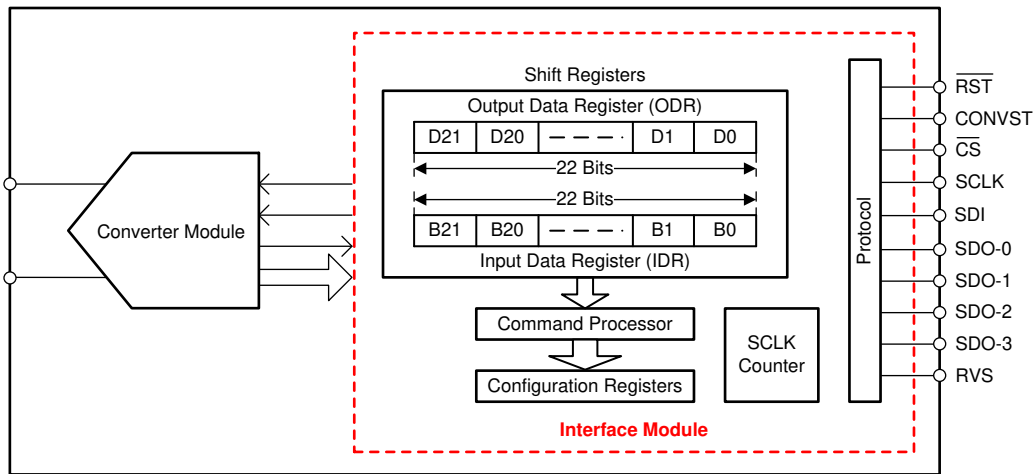
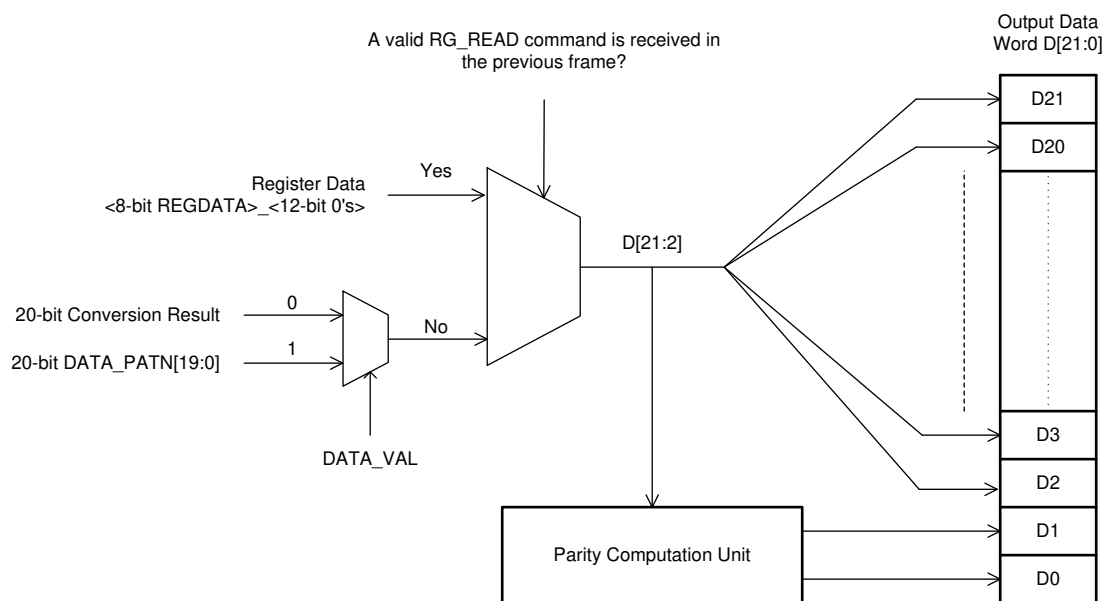
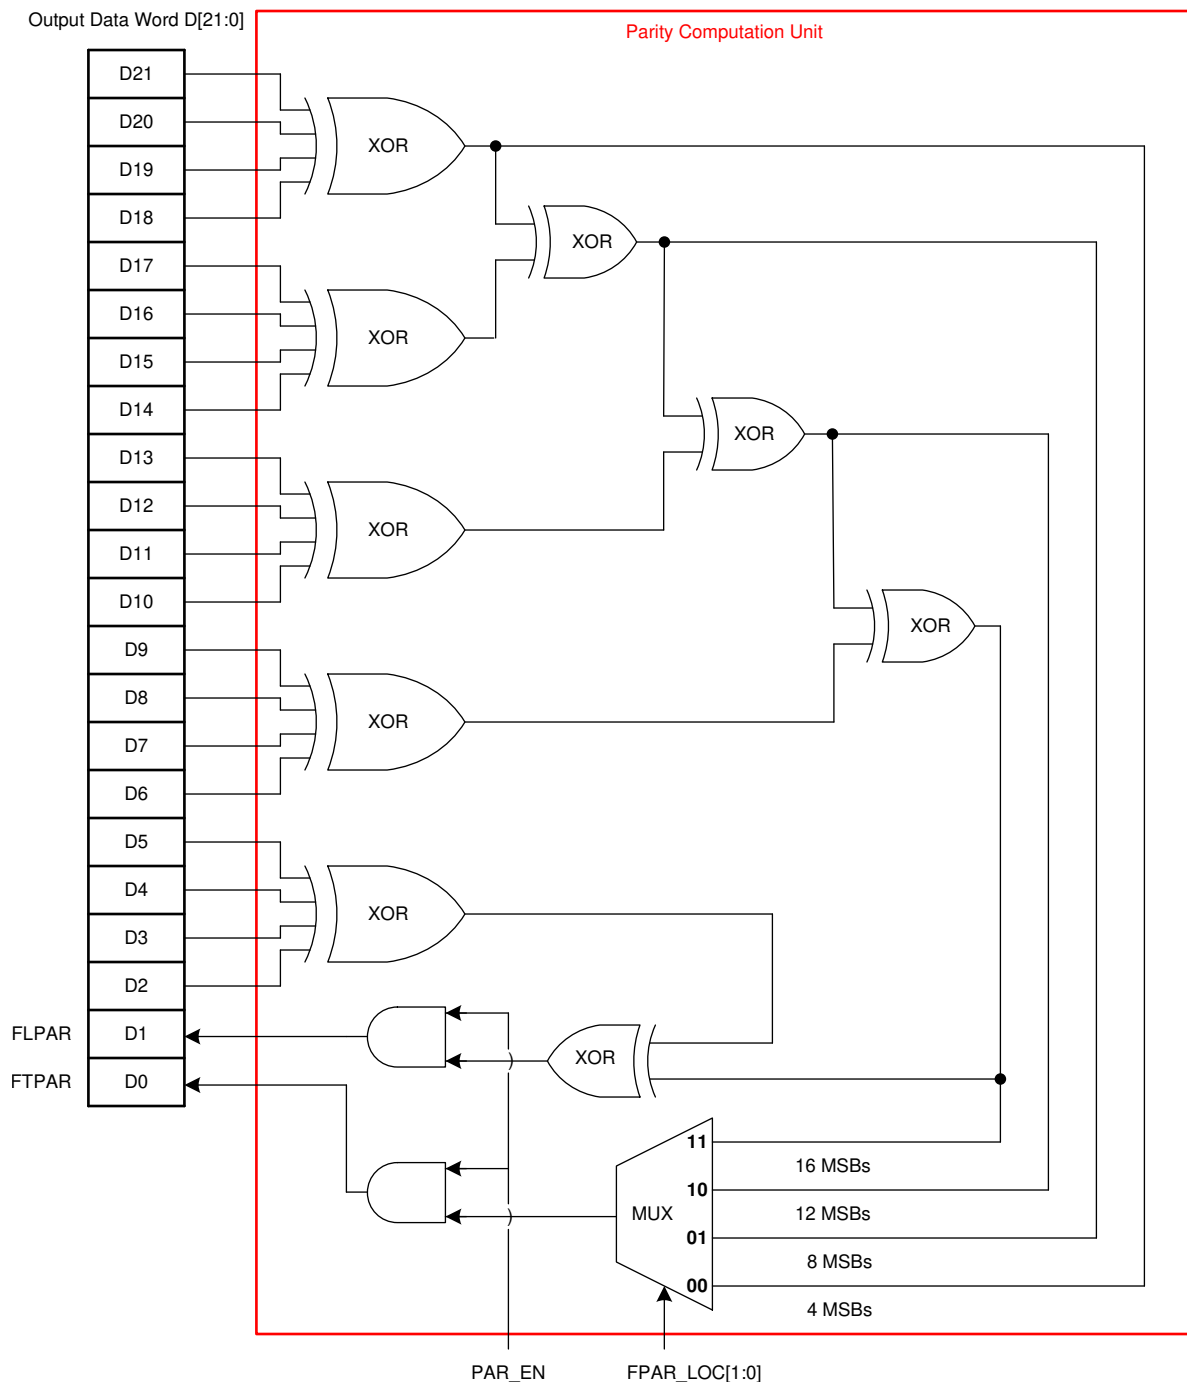
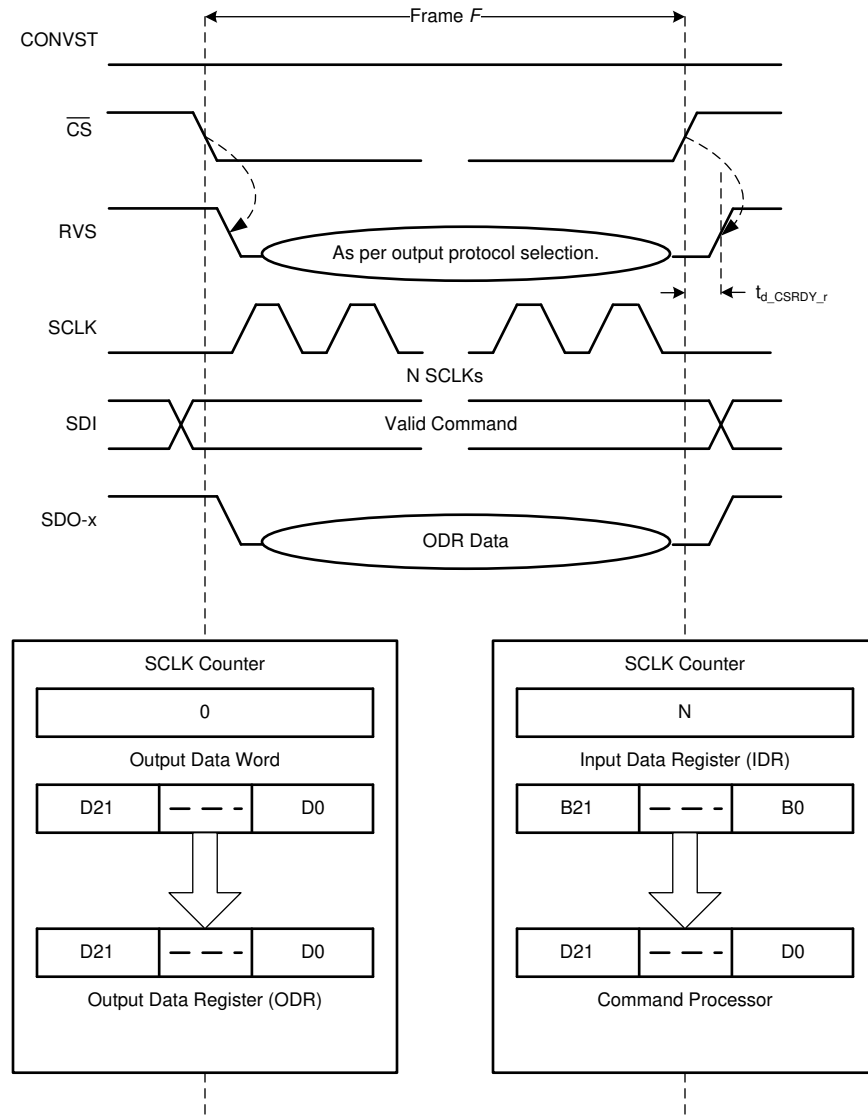

Figure 6-8. Interface Module
Figure 6-12. Output Data Word (D[21:0])
Figure 6-13. Parity Bits Computation
Figure 6-14. Data Transfer Frame
The interface module facilitates the communication and data transfer between the device and the host controller. As shown in Figure 6-8, the module consists of shift registers (both input and output), configuration registers, and a protocol unit.
Figure 6-12 shows the output data word. Figure 6-13 shows further details of the parity computation unit illustrated in Figure 6-12.
A data transfer frame between the device and the host controller is bounded between a $\overline{\text{CS}}$ falling edge and the subsequent $\overline{\text{CS}}$ rising edge. The host controller can initiate a data transfer frame (as shown in Figure 6-14) at any time irrespective of the status of the CONVST signal; however, the data read during such a data transfer frame is a function of relative timing between the CONVST and $\overline{\text{CS}}$ signals.
- The device takes control of the data bus. As shown in Figure 6-14, the 22-bit contents of the output data word (see Figure 6-12) are loaded in to the 22-bit output data register (ODR; see Figure 6-8).
- The 22-bit input data register (IDR; see Figure 6-8) is reset to 000000h, corresponding to a NOP command.
- As illustrated in Figure 6-14, the 22-bit contents of the IDR are transferred to the command processor (see Figure 6-8) for decoding and further action.
In a short command frame, the write operation to the device is invalidated; however, the output data bits transferred during the short command frame are still valid output data. Therefore, the host controller can use such shorter data transfer frames to read only the required number of MSB bits from the 22-bit output data word. As shown in Figure 6-12, an *optimal read frame* for the ADS890xB devices must read only the 20 MSB bits of the output data word. The length of an optimal read frame depends on the output protocol selection; see the Protocols for Reading From the Device section for more details.